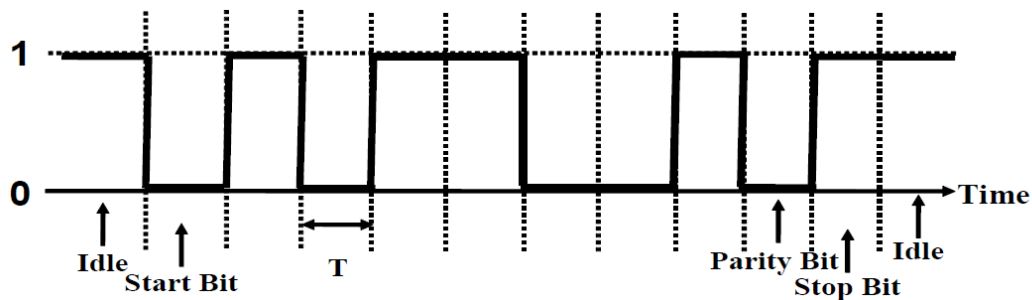

Fig. 2
2) Fig. 2 shows the logical waveform of an asynchronous data frame.
Answer the following question with reference to **Fig. 2**:
i. The value of **T** in **Fig 2**.
- (f) Assume the baud rate of the transmitter is 4800, but the baud rate of the receiver is configured as 9600. Based on **Fig. 2**, determine, if any, the ASCII character(s) that will be received.
- (g) Redraw the waveform in **Fig. 2** if the MAX233 line driver is used to produce a RS-232 compatible signal. You can assume the MAX233 produces signals of ± 15 volts.